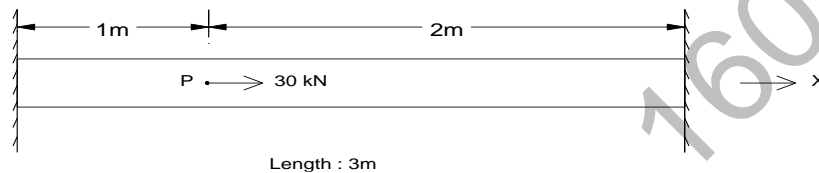

fig. 1
5. For the bar shown in fig.1 using Rayleigh-Ritz method, determine the displacement at the point P. Take $E = 1$, $A = 1$ and the body force per unit volume $\rho g = 1$.